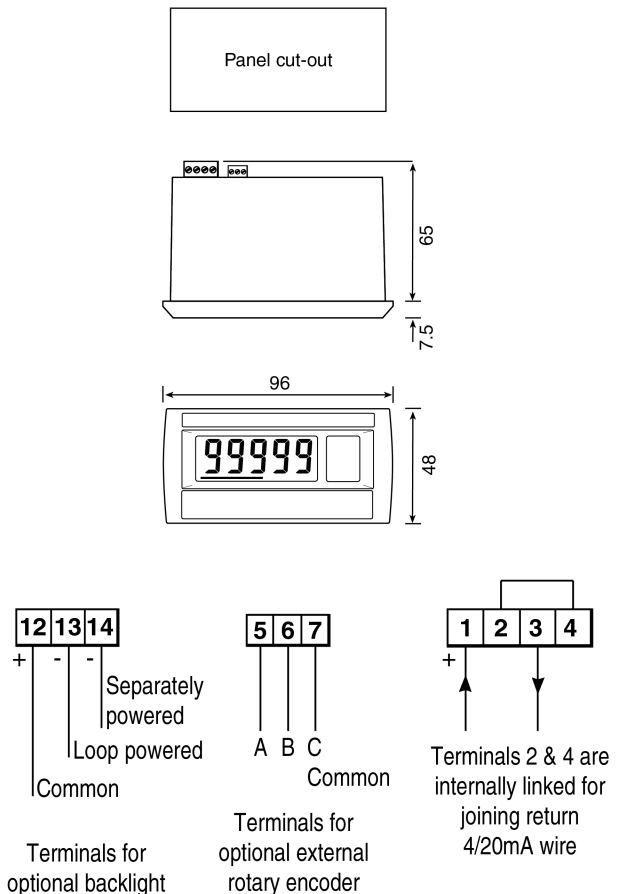

Fig 3 BA627E dimensions
Fig 3 shows the overall dimensions of the BA627E together with the recommended panel cut-out dimensions. To achieve an IP66 seal between the instrument enclosure and the instrument panel an aperture with the recommended tolerance should be used.
- Cut the specified aperture in the panel. To achieve an IP66 seal between the instrument enclosure and the instrument panel the aperture must have the dimensions specified in Fig 3.
- Connect the panel wiring to the rear terminal block(s) as shown in Fig 3. To simplify installation, the terminals are removable so that the panel wiring can be completed before the instrument is installed.